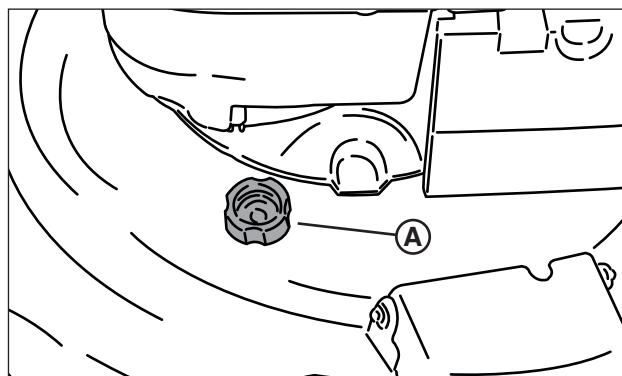

Figure 17: Washout port
5. Connect the male end of a standard garden hose to the washout port connector (**A**, **Figure 17**).